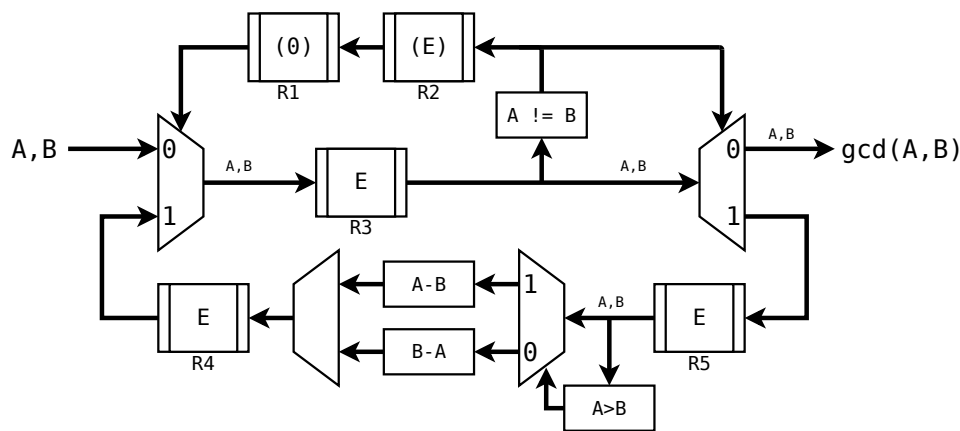

Figure 1: Dataflow representation of an algorithm that calculates the greatest common divisor. Slightly adapted from [2, p. 38].
Data flow diagrams are an efficient way to model asynchronous circuits. Figure 1 shows a 4-phase circuit that calculates the greatest common divisor (GCD). Your first task is to retrace the data flow through the shown implementation and explain it in your presentation. Then alter the circuit such that the algorithm from Listing 1 is implemented. Show and explain your result in the presentation, especially the temporal behavior. Note that the sources of Figure 1 are available in the template (subfolder figures).
5. Comparing the data flow representation in Figure 1 and the implementation from the click-element repository it can be seen that registers moved, got merged or were removed. Show and explain the changes!